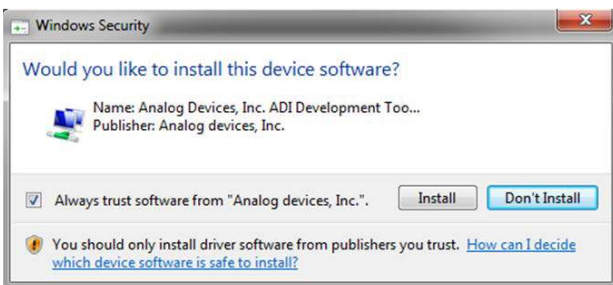

Figure 11. Windows Security Dialog Box
9. The **Windows Security** dialog box appears (see Figure 11). Click **Install** to allow the **Windows Security** dialog box to install the SDP-H1 drivers.